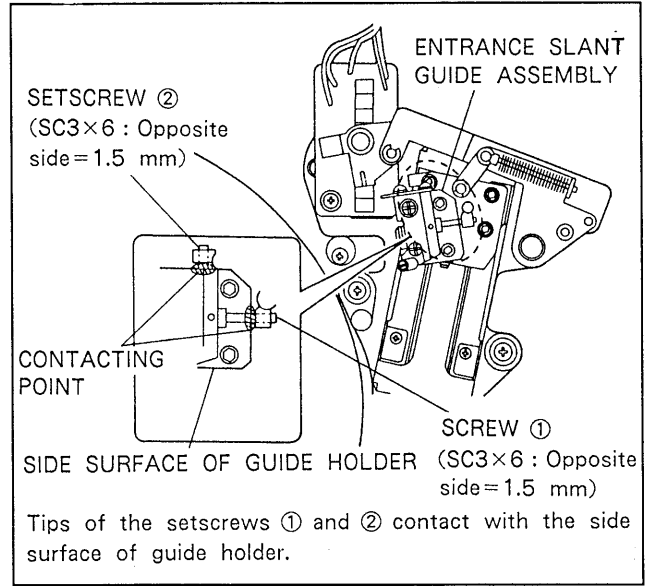

Fig. 6-5-2. Screw Position of Entrance Slant Guide
2. Check that the tips of the setscrews ① and ② in Fig. 6-5-2, are coming in contact with the side surface of guide holder of the entrance slant guide.